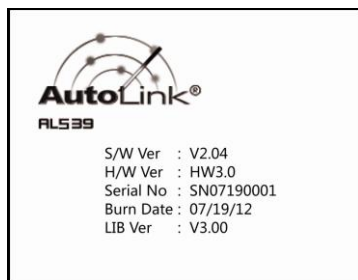

Figure 3.12
- 2) View tool information on screen. (Figure 3.12)